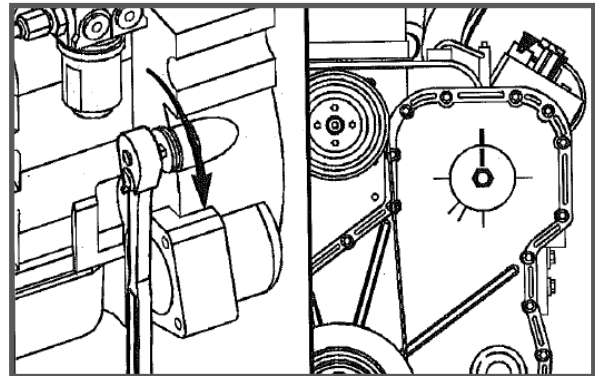

FIGURE 4
2. Using the barring tool, Part No. 5299073, rotate the crankshaft to align the mark on the fuel pump gear with the top dead center mark on the gear cover (12 o'clock). See Figure 4.